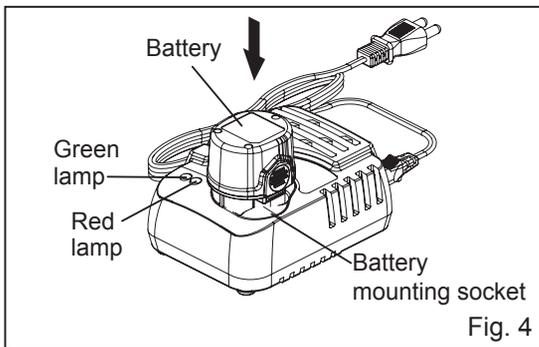

Fig. 4
3. Insert the battery as far as it will go into the mounting on the charger. (Fig. 4)
The red lamp indicates that charging has started. After approximately 30 minutes, the green lamp starts flashing on and off quickly (indicating it is 80% charged). The battery is fully charged when the lamp stops flashing but remains on. A full charge therefore takes about 60 minutes in total. (Fig. 4)